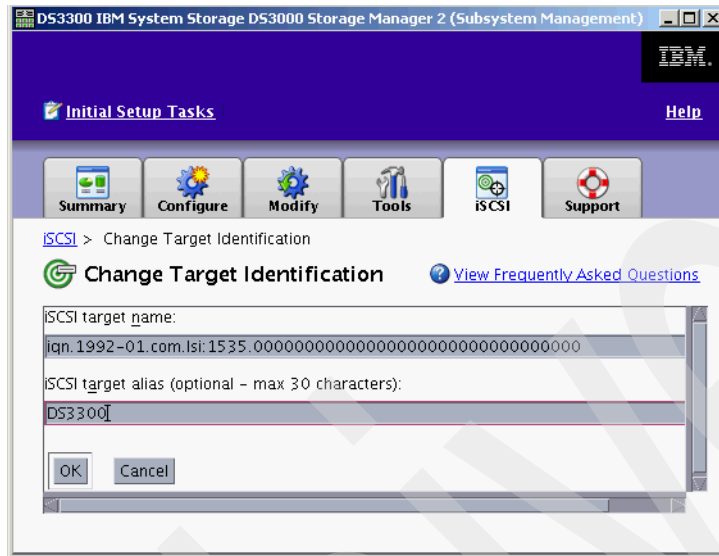

Figure 13-8 Storage Manager - Change Target Identification
2. Enter an alias name (DS3300 in our example in Figure 13-8) and click **OK**.